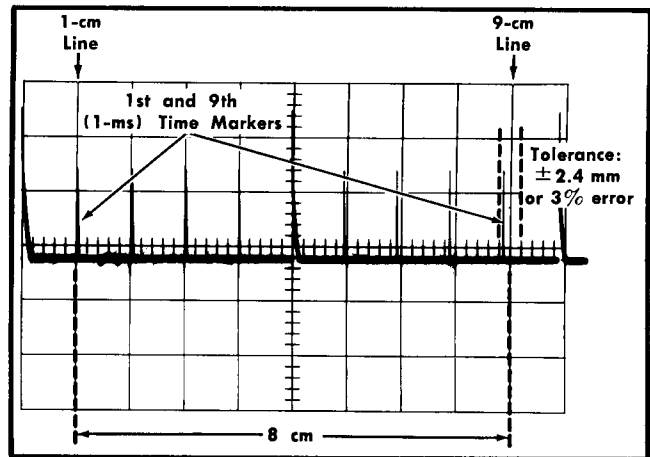

Fig. 6-30. Determining sweep rate accuracy.
- Set the Time Base A TIME/CM switch and marker selector for the Time-Mark Generator as per Table 6-3, check the timing accuracy over the center 8 cm (see Fig. 6-30).